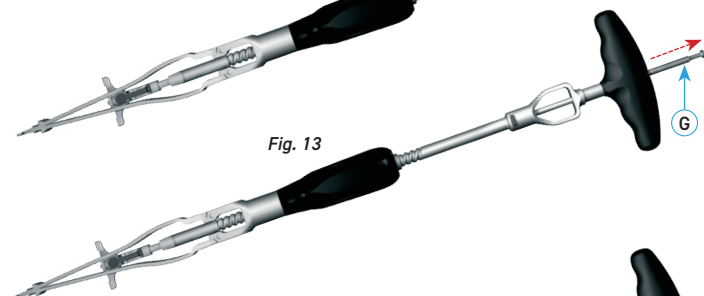

Fig. 13
2. Manually feed the inner shaft (G) through the cannulated T-handle out the proximal end of the instrument (Fig. 13).